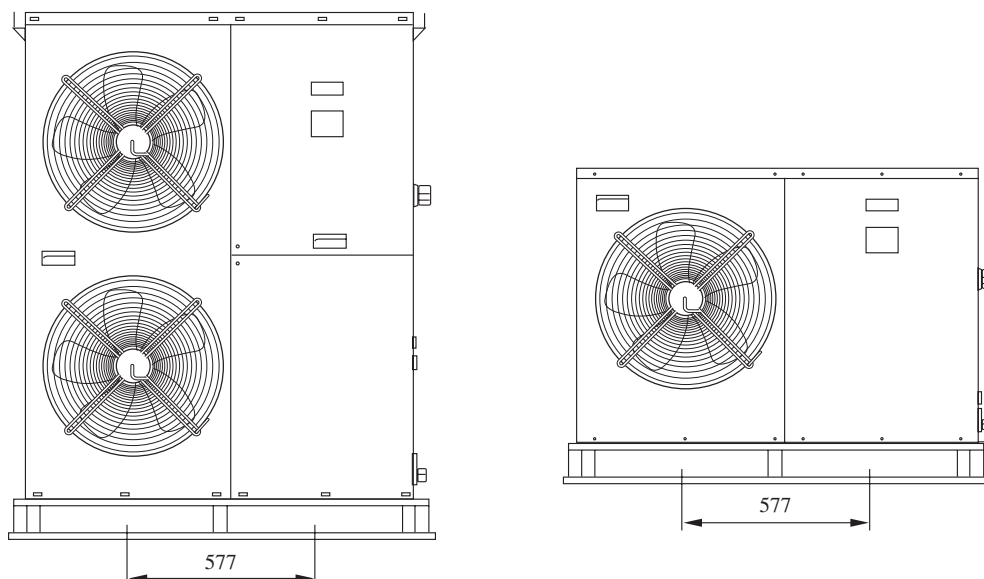

Figure 1
- Use spreader bars or forklift to lift the unit to avoid damage to the panels. Figure 1 provides the dimensions of the crate for lifting. Avoid violent movements. Do not remove crate until it is at its final location.